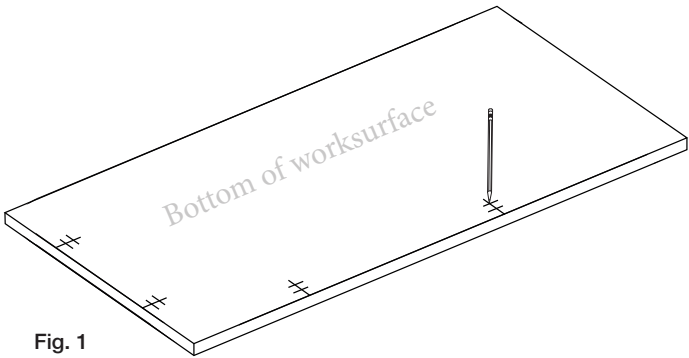

Fig. 1
2. Mark the underside of the top for each bracket location. Ensure the mark extends at least 1-1/2" from the edge. Mark screw locations at each bracket location mark 5/8" and 1-3/8" from the edge (Fig. 1)